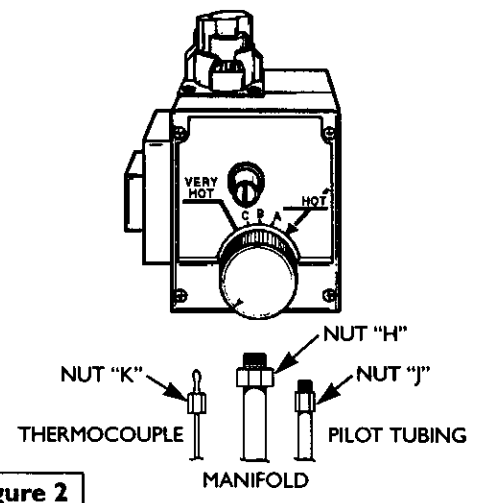
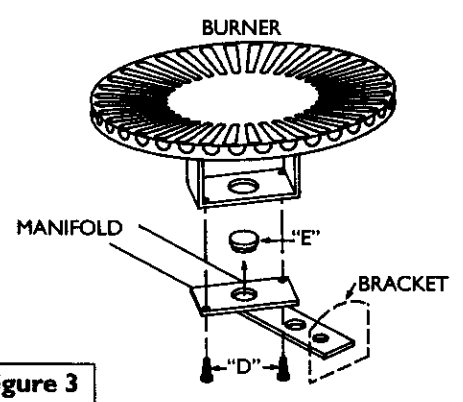

Figure 2
Figure 3
- Step 3. Remove burner assembly from water heater and control by loosening $\frac{3}{4}$ " nut “H” holding burner assembly to control. (See Figure 2, page 17). Loosen pilot tube nut “J” and thermocouple nut “K” at control.
- Step 4. Remove screws “D” disengaging manifold from burner. (See Figure 3, page 17)
- Step 5. Remove orifice “E” (See Figure 3, page 17) using $\frac{3}{8}$ " wrench. Install orifice marked “L.P.” found in the bag into manifold. Tighten securely. Secure burner to manifold with screws “D”.
- Step 7. Make sure all connections are tightened securely, and reinstall burner assembly into water heater. Position end of the manifold inside bracket as shown in Figure 3 on page 17. Reinstall manifold into control and tighten $\frac{3}{4}$ " nut (“H”) securely. Recheck to see that end of manifold is still inside bracket as shown in Figure 3 on page 17. Reinstall pilot tubing and thermocouple into control. (See Figure 2, page 17)
- Step 14. Push in control knob all the way and hold down. Immediately light the pilot with a match. Continue to hold control knob in for about one (1) minute after the pilot is lit. Release knob and it will pop back up. Pilot should remain lit. If it goes out, repeat steps 9 through 12.
- Step 15. Check for gas leaks with only pilot flame burning using a soapy water solution, not a match or open flame. Check for gas leaks at fittings “F” and “G” (See Figure 4, page 17) and at fitting “J” (See Figure 2, page 17).
- Step 19. With a soapy water solution, not a match or open flame, check for gas leaks at gas connection “H”. (See Figure 2, page 17). If gas leak occurs, turn off immediately by shutting off gas cock at inlet to control, or by turning gas control knob (↶) to “PILOT” pushing down and turning to “OFF”. Repair gas leak as necessary, and repeat steps 9 through 19.